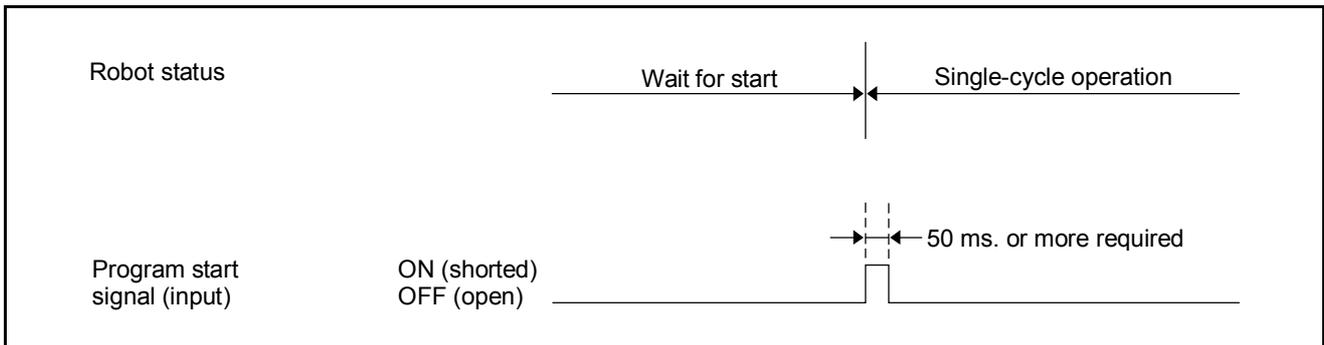

Figure 5-43 Example of Program Start Signal Fall Timing-2
- b) Figure 5-43 shows how to make the program start signal fall with the simplified method (1 shot method using a timer).